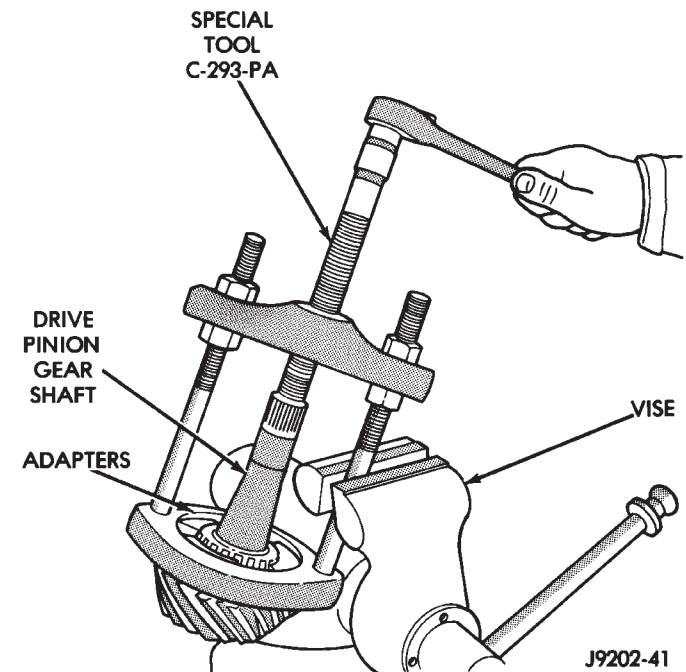

Fig. 32 Inner Bearing Removal
- (10) Remove the rear pinion bearing from the pinion with Puller/Press C-293-PA and Adapters C-293-48 (Fig. 32).